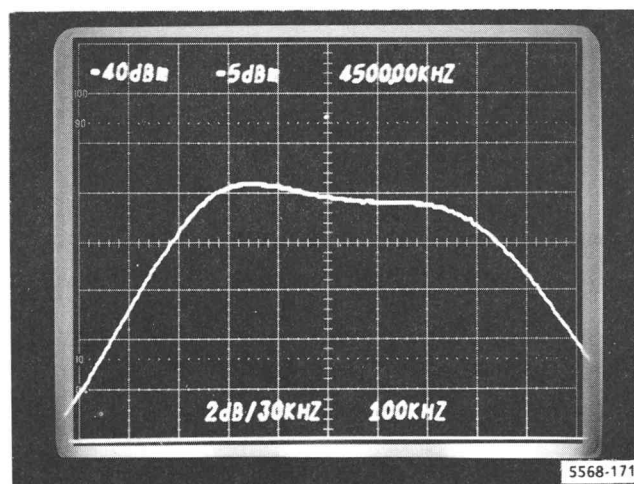

Fig. 4-59. 4.5 MHz bandpass filter
- c. **ADJUST** T17 and T31 on A41 for the most linear display within 1.5 dB between 4.3 MHz and 4.7 MHz. See Fig. 4-59.